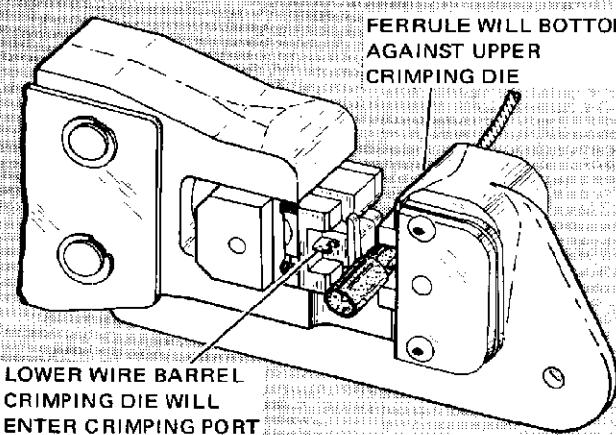

Figure 3
- Place Contact in Upper Crimping Die as shown in Figure 3.
- Push Contact "up" so that Upper Barrel Crimping Die enters Crimping Port and Ferrule bottoms against Braid-Ferrule Crimping Die. See Figure 3.
1. Place Contact on Stationary Die as previously described. See Figures 3 and 4.